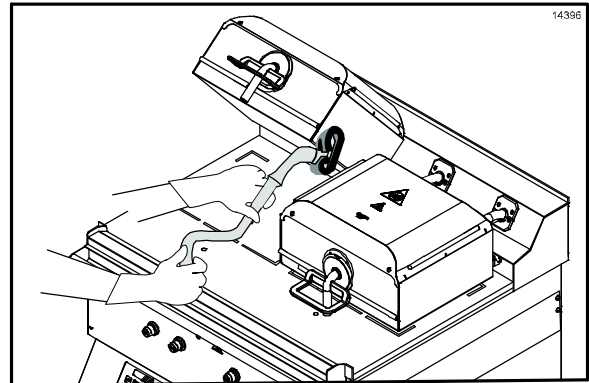

Figure 56
28. Scrub the inner edges of the right and left platens. (See Figure 56.)